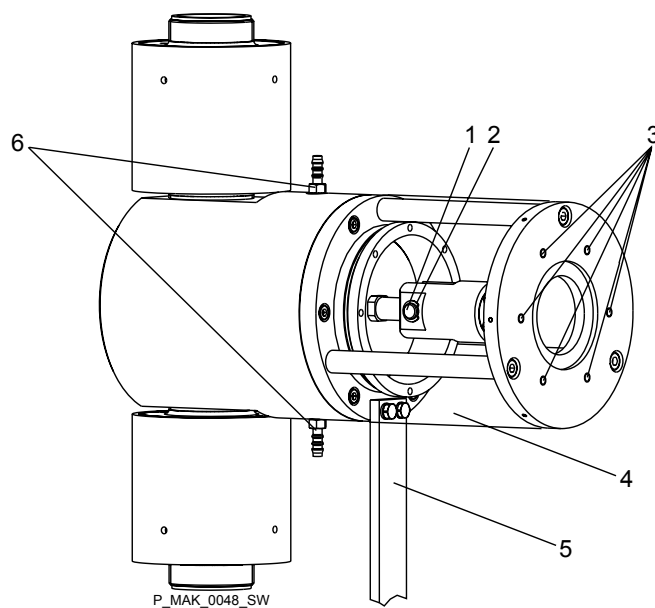

Fig. 19: View of the liquid end
7. ➤ Remove the protective cover (4) from the turret - see Fig. 19.
8. ➤ Remove a safety collar (2) from the bolt at the swivel head and pull out the bolt (1)